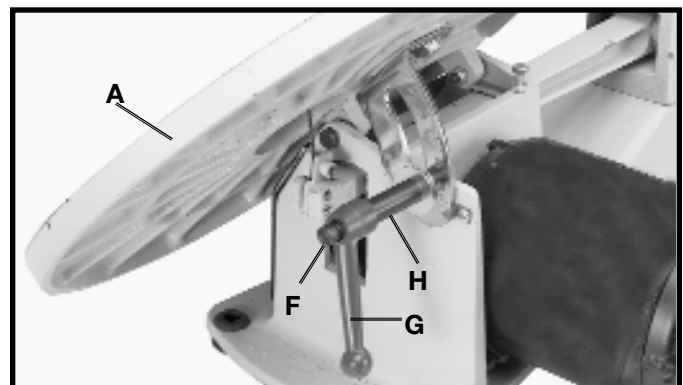

Fig. 10
8. Place handle (G) Fig. 10, onto locking stud (H) and fasten with screw and spring (F). Move table (A) to the horizontal position and lock table (A), by turning handle (G) clockwise.